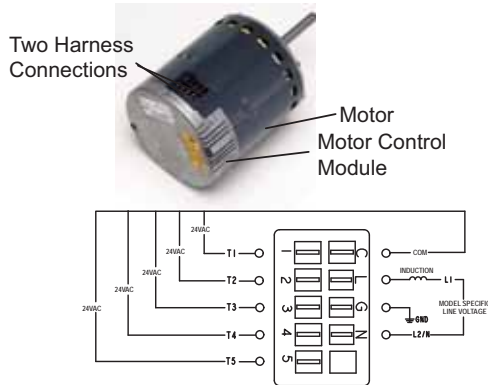

Figure 18. Unplug the Two Harness Connection
- 3 - Unplug the two harnesses from the motor control module. See **Figure 18**.